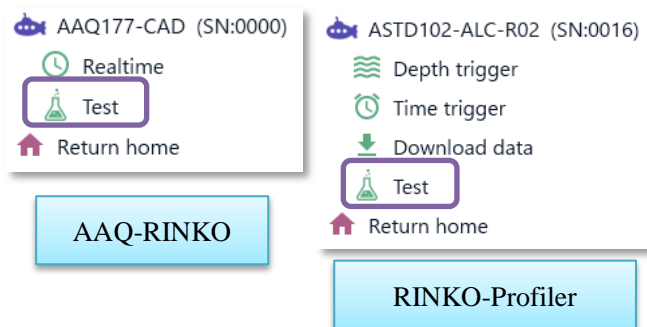

Figure 6.47 Choose “Test”
- (3) Choose “Test” from “function menu”. (Figure 6.47)